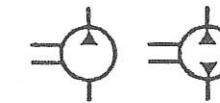

Figure A10 / Rajah A10
10. Refers to Figure A10, it is _____.